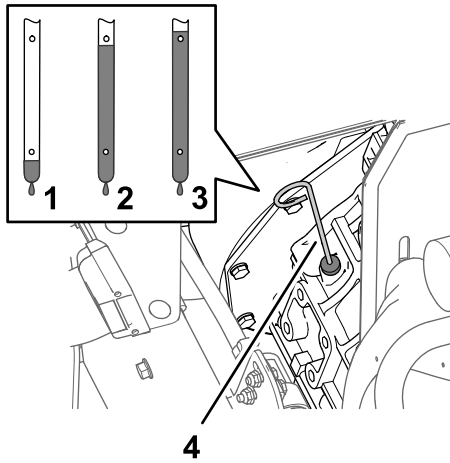

Figure 73
- Remove the dipstick and check the oil level in the engine (Figure 73).
- Slowly add additional specified oil to bring the oil level to the Full mark on the dipstick (Figure 73).